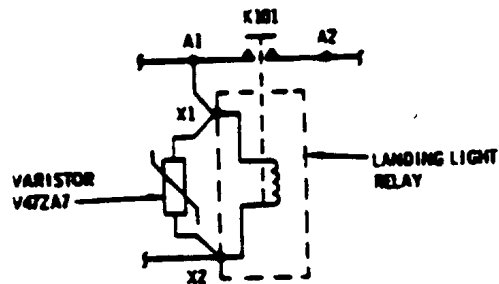

Figure 2. Installation of Varistor - Landing Light Relay
- (1). Check that all electrical power is OFF.
- (2). Disconnect wiring leads from XI tad X2 on relay (See Figure 2). Disconnect relay panel 369H2502-66 located on lower support of instrument panel assembly. (Refer to HMI - Vol I.)
- (3). Crimp terminal to each lead of varistor (trim varistor leads as close as practical to body of resistor).
- (4). Install varistor leads to relay terminals as shown in Figure 2: connect wire leads at XI and X2.
- (5). Reinstall relay panel.